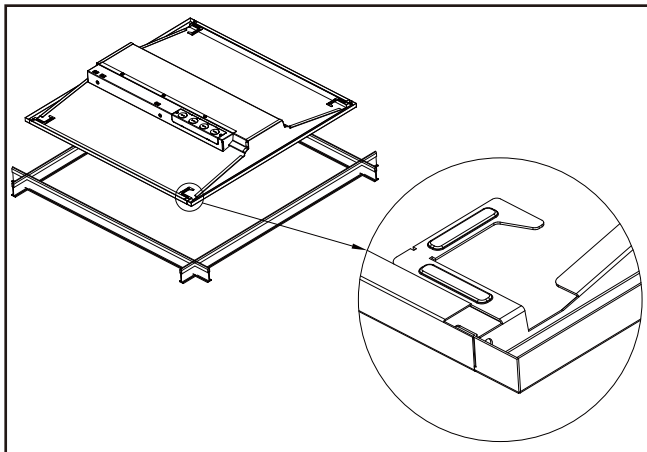

Figure 2.
5. Pass fixture through the grid at a 45 degree angle and lay fixture into the grid (Fig. 2).
NOTE: Fixture weights are below. Ensure grid location is rated for fixture weight before moving to next step. If unsure, use cable to support fixture to appropriate support beam above fixture using the circular holes in the corner tabs (Fig 2).